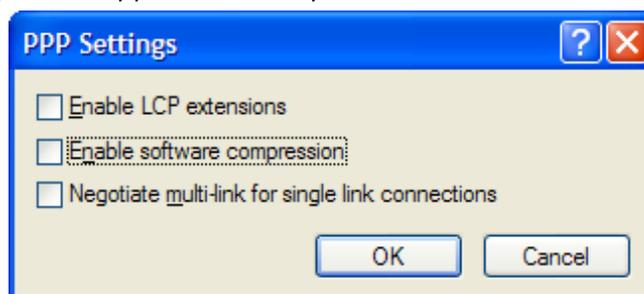

Figure 6-7: PPP Settings
5. It is a good idea to uncheck Software compression in the PPP dial-up Server on the Networking tab of the applicable dial-up connection, as shown in Figure 6-7.